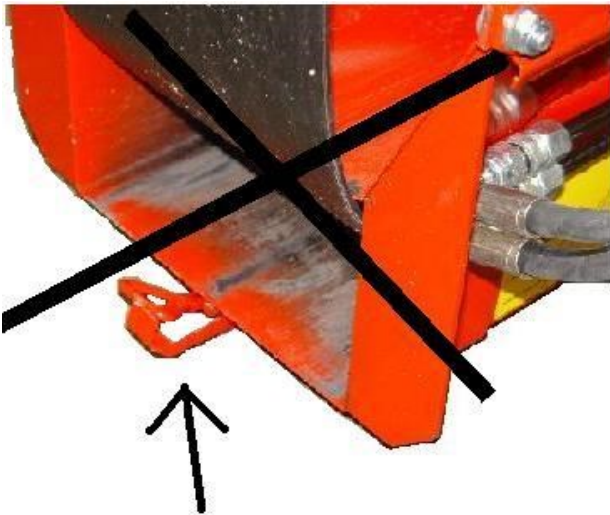

Figure 714
7.1-4 Check that the locking latch of the out-feed extension is not in the wrong position. If the latch is visible, use the winch to lift the out-feed conveyor slightly and turn the latch beneath the conveyor. See Figure 714.